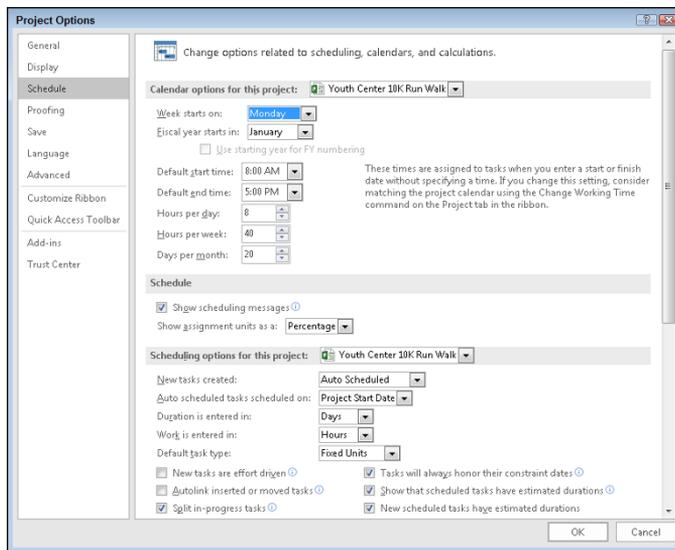

Figure 8-1:
2. Click the Schedule category on the left side of the Project Options dialog box, as shown in Figure 8-1.